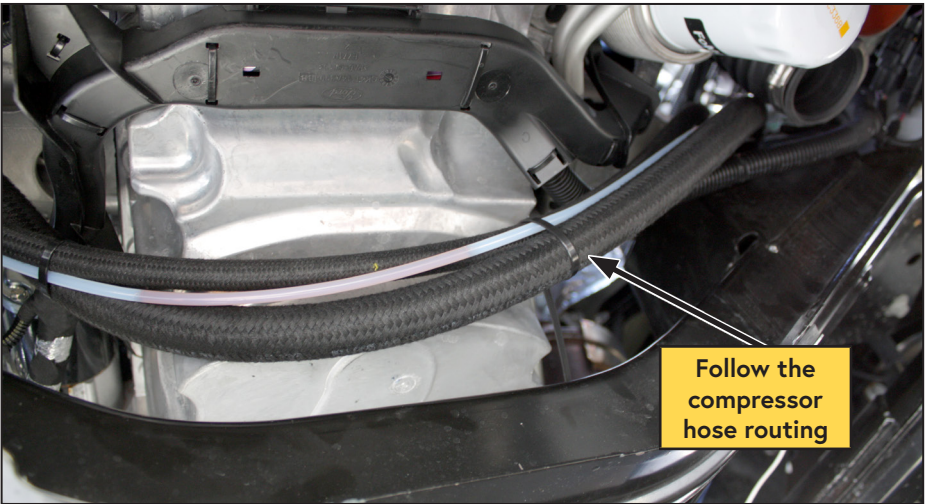

Figure 77 — Route hoses under the oil pan
- Follow the routing path under the engine oil pan and over the front subframe crossmember, towards the passenger side of the vehicle (Figure 77).